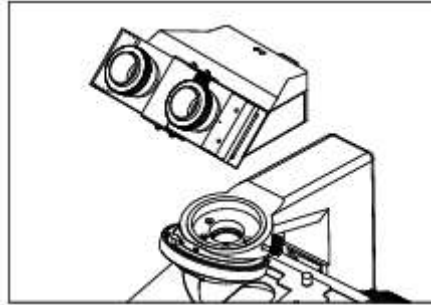

Figure-3
7.3.1 Installing digital viewing head (Figure-3,4)